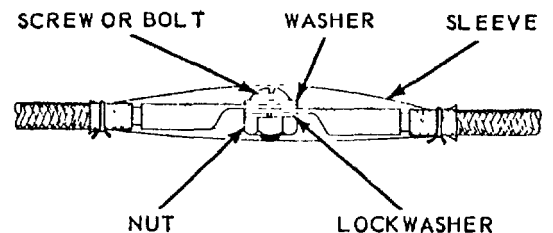

Figure 2. Bolted Terminal Lug Repair of Large Wire
d. For the M22520/5 and M22520/10 tools, see Figure 2 for crimping instructions.
to each wire end, following the procedures described in TO 1-1A-14.1, Chapter 5. Bolt the terminal lugs together as shown in Figure 2. Slide the insulating sleeve over the connection and tie securely to the wire at both ends.